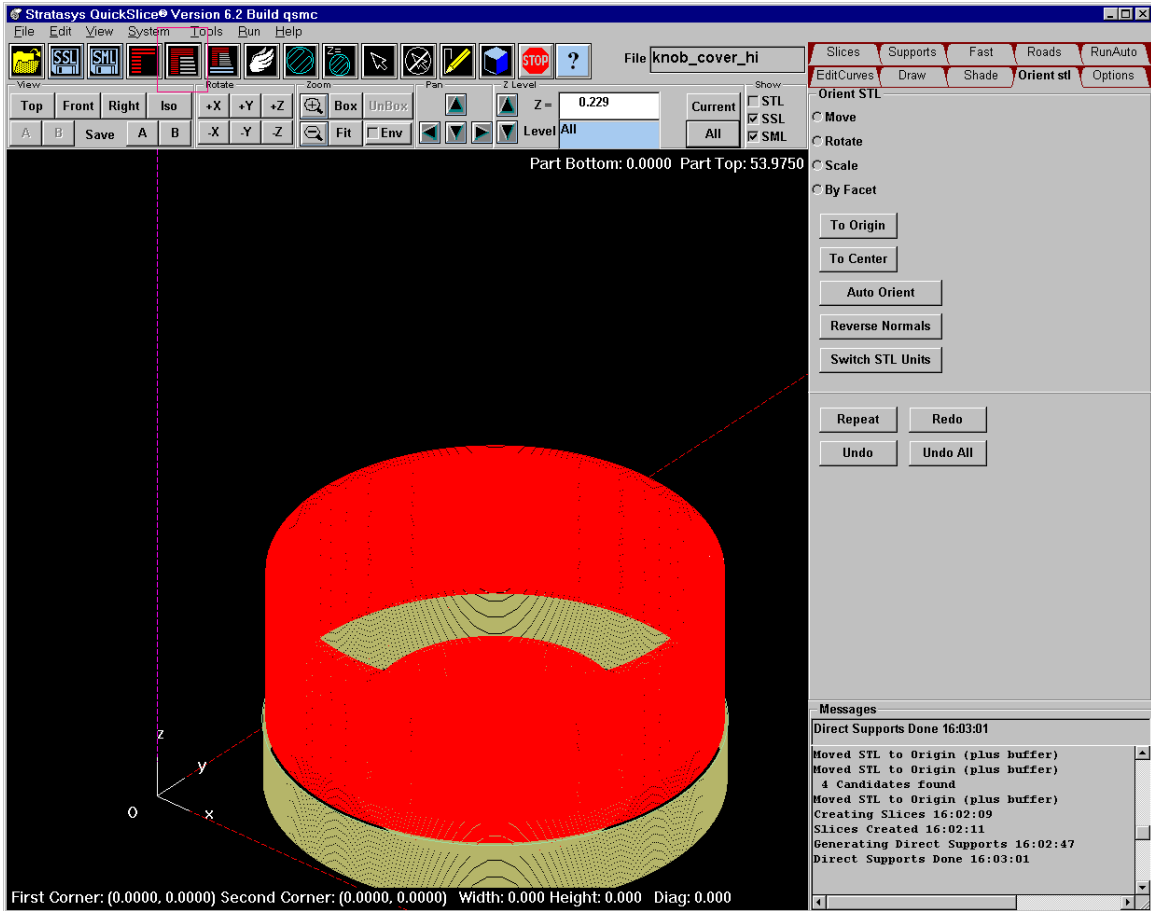

Figure 6: Supports figure.
11. Next supports will need to be built. Click *build supports*  icon which is the center of three red icons at top of screen. See figure 6 for highlight. After supports are generated they will be displayed in a yellow color. Bottom right corner text will read “Direct Supports Done,” when finished.